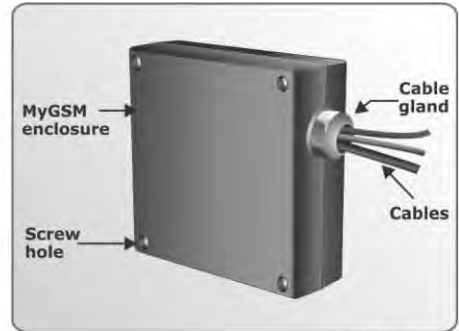

FIGURE 9.
- Fit a cable gland into the cable entry hole and run the cables through the gland as shown in Figure 9.